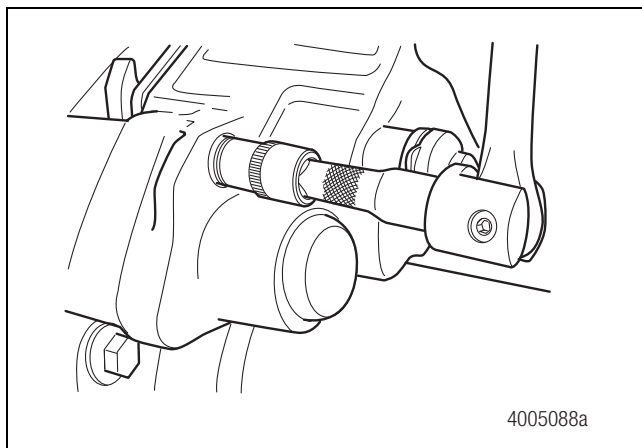

Figure 6.61
2. Support the bridge in position. Install the four NEW bridge bolts included in the service kit. Do not reuse the bolts that were removed. Tighten the bolts to the torque specified in Section 10. Figure 6.61. If necessary, install the caliper assembly onto the axle. Refer to the procedure in this section.